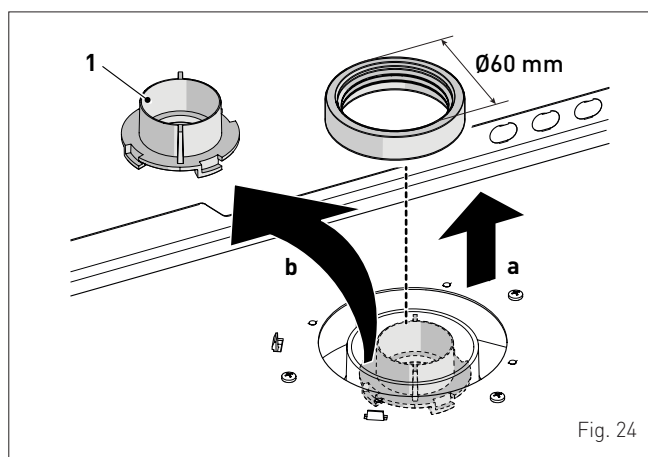

Fig. 24
- For model **Edea 25 T**, beyond a total load loss between discharge and suction of **9 mm H2O**, remove the discharge diaphragm as illustrated in "Fig. 24".
- For model **Edea 35 T**, beyond a total load loss between discharge and suction of **12 mm H2O**, remove the discharge diaphragm as illustrated in "Fig. 24".